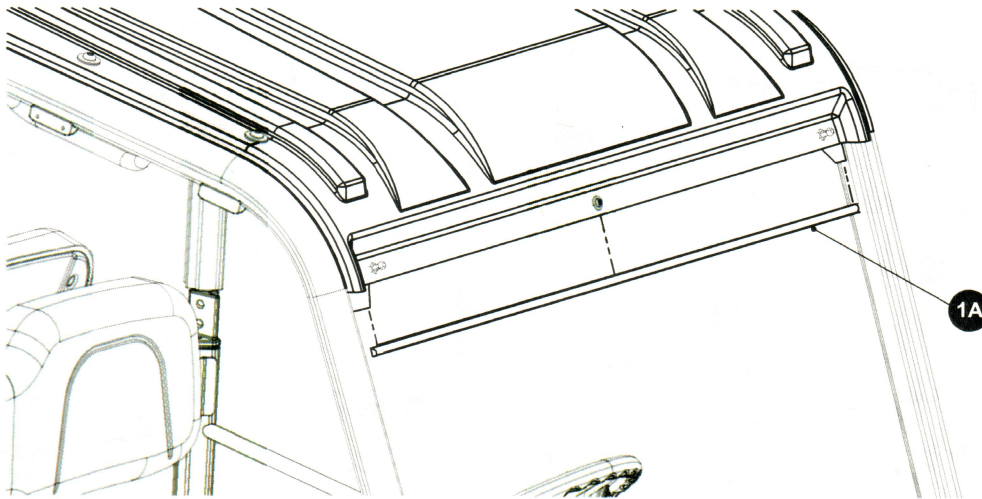

Fig. 2
1. Install header seal (1A) to the front bottom edge metal header as shown in Fig. 2. Bulb of seal should face the front of vehicle, to support windshield. Seal will follow profile of the metal header. Side seals included with canopy kit.